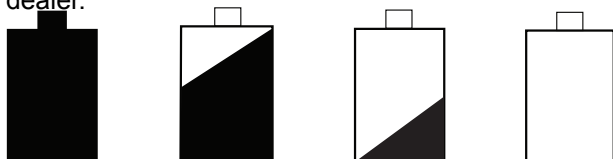

Figure 15.1
- If the battery charge falls below 10 volt it can no longer sustain the appliance operation and the appliance will shut down (**Figure 15.1**). You must disconnect and reconnect the battery to start it up again.